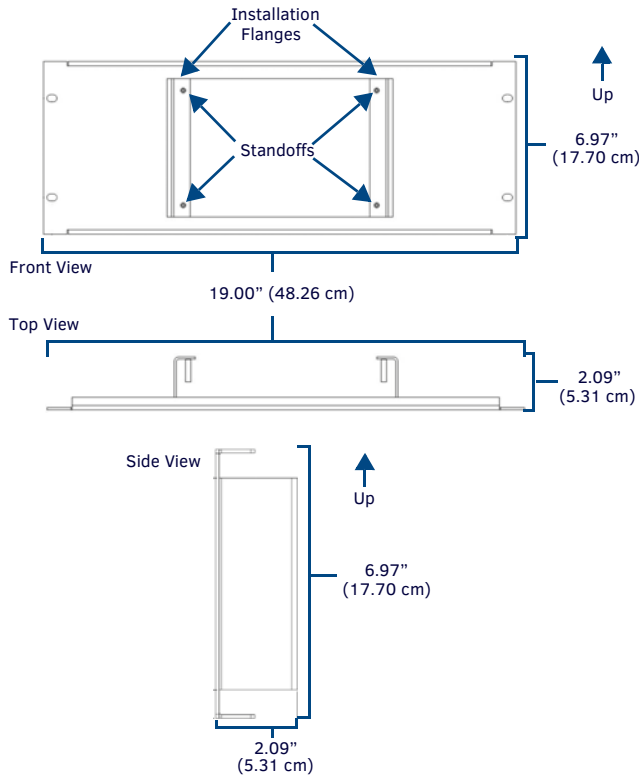
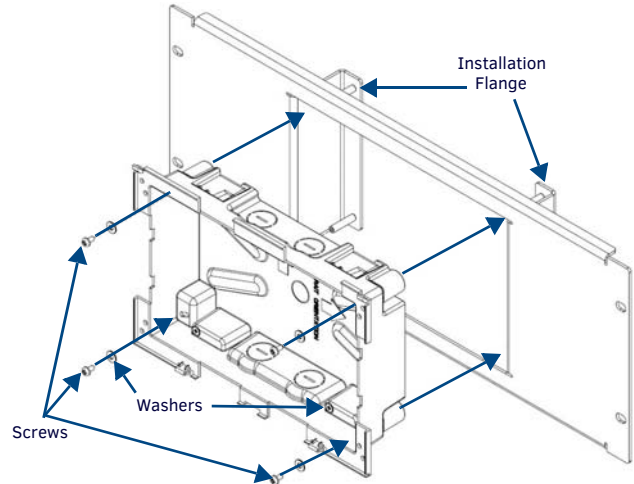
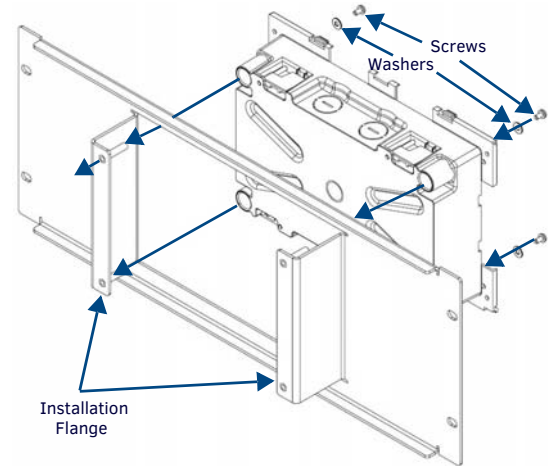

FIG. 1 MXA-RMK-10
FIG. 2 INSTALLATION OF THE BACK BOX INTO THE MXA-RMK-10, FRONT VIEW
FIG. 3 INSTALLATION OF THE BACK BOX INTO THE MXA-RMK-10, REAR VIEW
The MXA-RMK-10 Modero X Series® Rack Mount Kit (FG5969-62) is an optional accessory for the MXD-1000 10.1" Modero X Series Wall/Flush Mount Touch Panel (FIG. 1). The kit allows the touch panel to be mounted directly on an equipment rack, and includes a rack mount frame, screws and washers.
1. Secure the Rack Mount Panel to the rack with #10 screws. Make sure that the installation flanges (FIG. 2 and FIG. 3) face away from the front of the rack (FIG. 1).
3. Pass a washer through a #6 screw and insert it in a standoff screw hole (FIG. 2). Repeat this procedure at each corner of the Back Box.